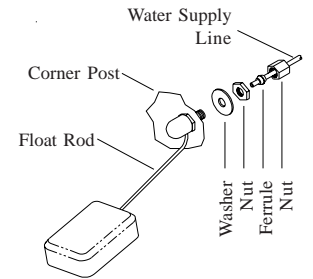

Fig. 7
• **Install float valve.** Install valve in the provided hole in corner post (Fig. 7) and attach water supply line.
• **Fill pan.** Allow water to fill to within 1” of top of pan and adjust float to maintain this water level. This can be accomplished by bending the float rod (Fig. 7).